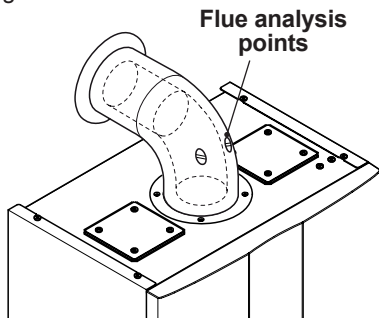

Fig. 9.16
- Connect a flue analyser to the flue analysis outlets on the flue exhaust of the boiler Fig. 9.16.
- Check the combustion of the boiler using the outlets located on the flue tubes (Fig. 9.16) and compare the data measured